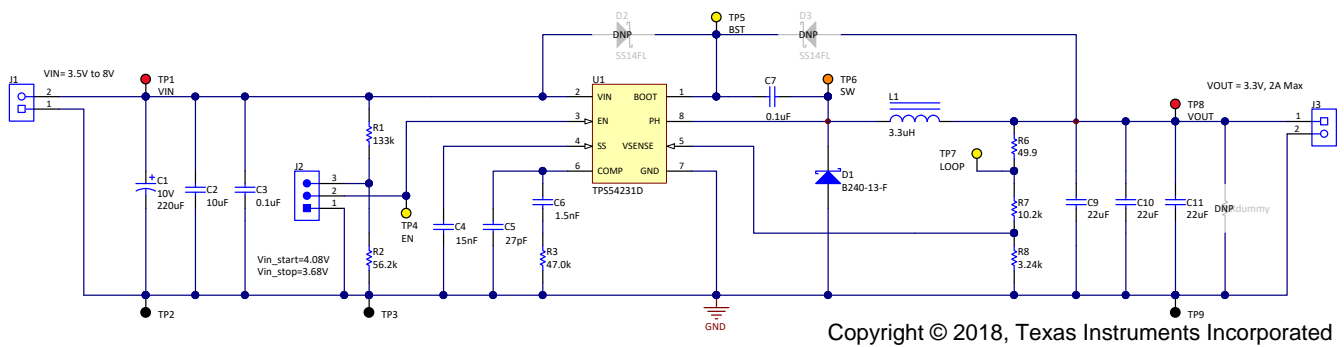

Figure 1. TPS54231 Test Circuit
**Figure 1** shows the TPS54231 circuit used for testing. Some modifications are needed to investigate low dropout.